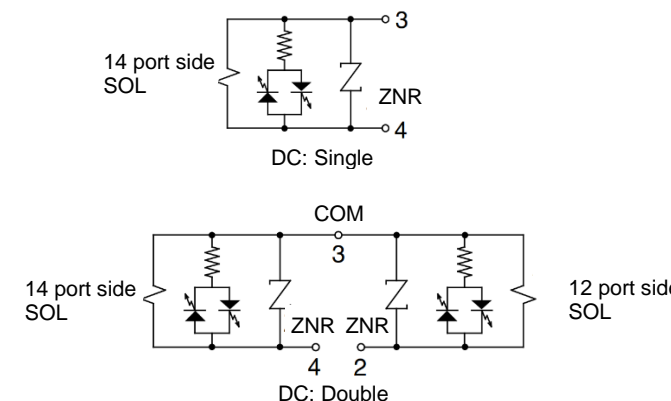

Figure 2. EVS7-M0 electrical circuits
- Refer to Figure 2 for surge voltage suppressor diagrams.